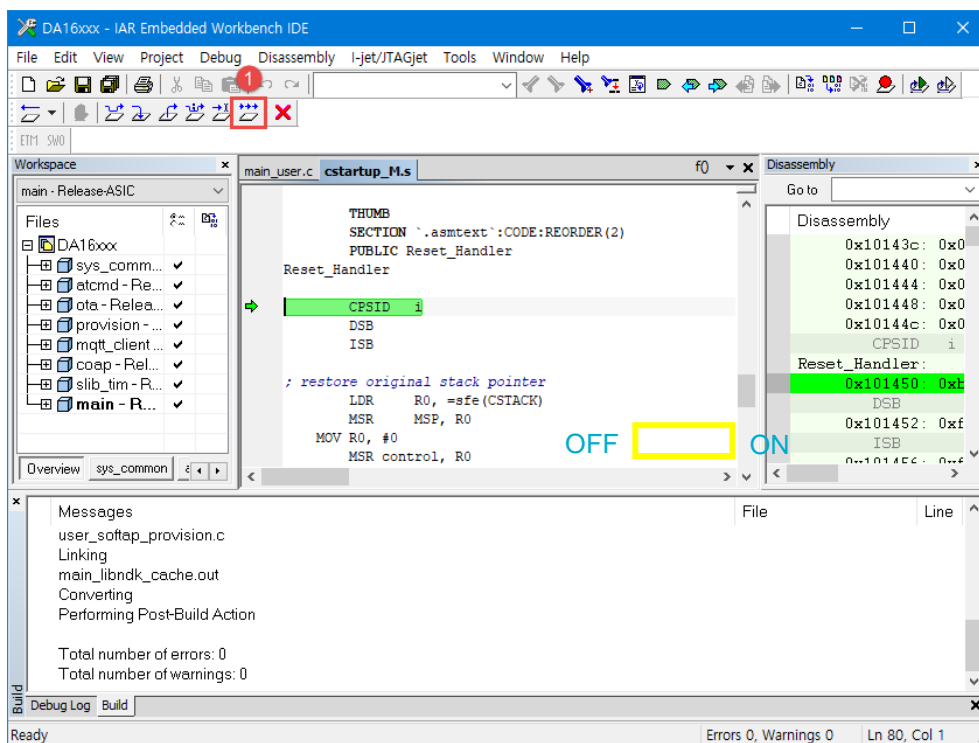

Figure 46: Download and Debug Windows
- Click the **Go** button (1). See Figure 46.